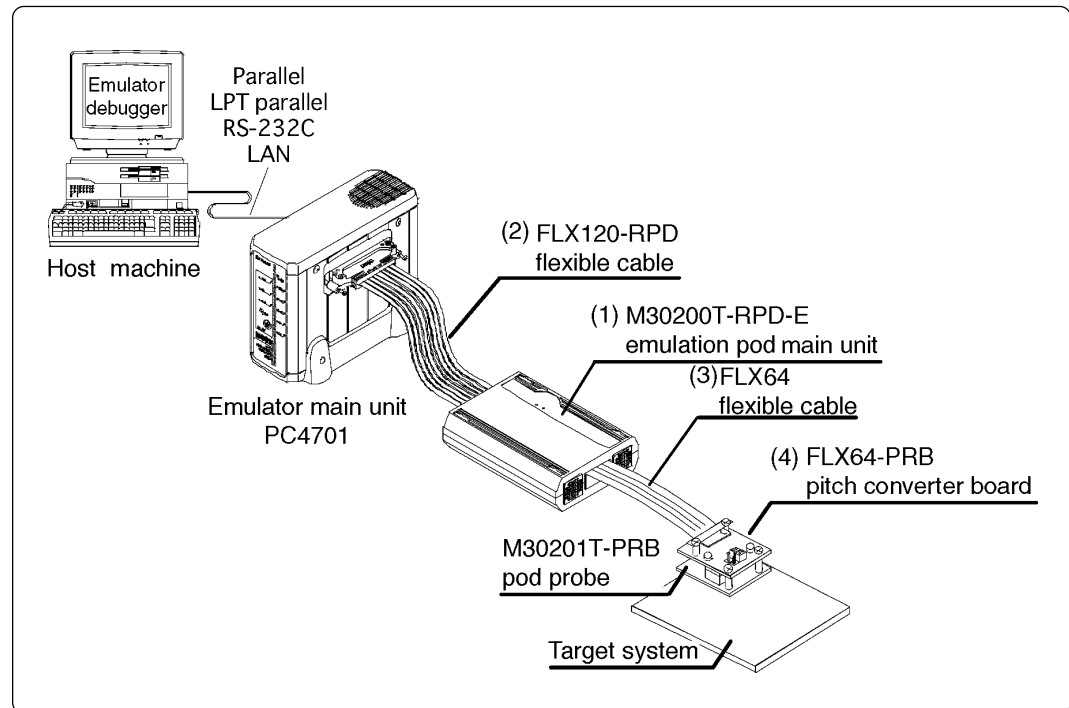

Figure 2.1 System configuration
M30200T-RPD-E is used by connecting to the PC4701 emulator main unit. Figure 2.1 shows the system configuration.
Products (1) to (4) shown in Figure 2.1 are included with this product.
(1) M30200T-RPD-E (Emulation pod main unit)